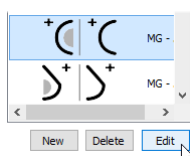

Figure 455 – Editing a selected hanging protocol
- Select the hanging protocol in the list of all protocols on the **Mammography workflow** tab of the **Options** dialog, and click the **Edit** button (see Figure 455).